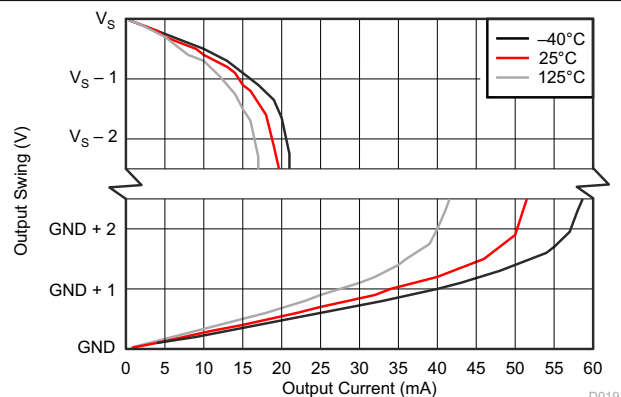

Figure 7-19. Output Voltage Swing vs. Output Current
(1) RTI = referred-to-input.
(2) Offset voltage is obtained by linear extrapolation to  $V_{SENSE} = 0\text{ V}$  with  $V_{SENSE} = 10\%$  to  $90\%$  of full-scale-range.
(3) See Figure 7-19.
(4) Swing specifications are tested with an overdriven input condition.